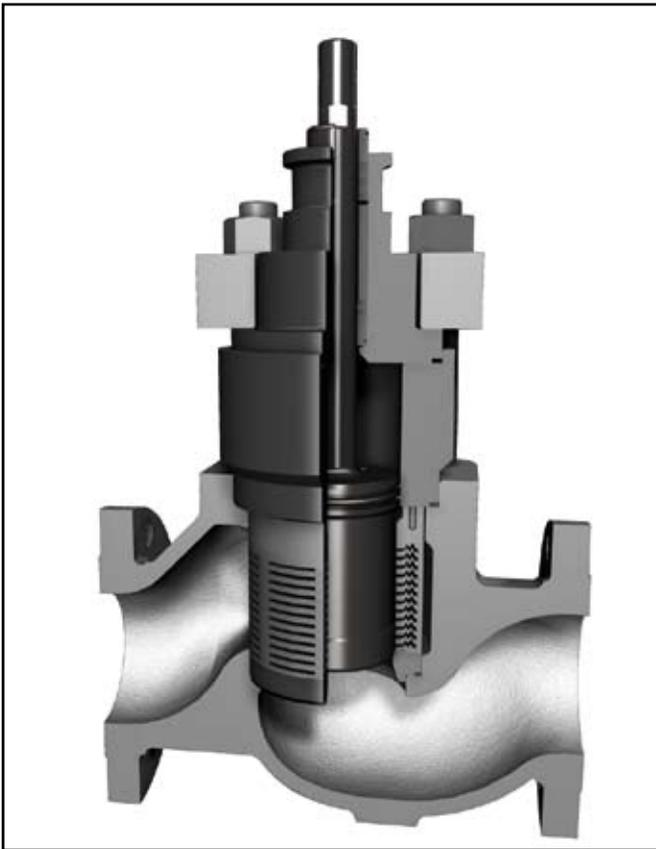

Figure 10
8.5.1. TigerTooth replaces the standard Mark One retainer with a welded or pinned, stacked-disk retainer, see Figure 10. Several of the parts, including the plug, seat ring and bonnet have dimensional differences from the standard Mark One design. Assembly and disassembly of the valve follows the standard procedures.